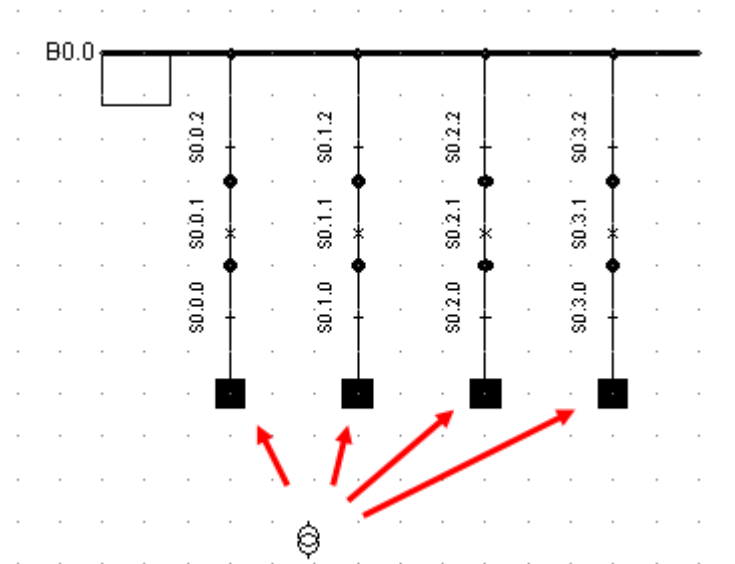
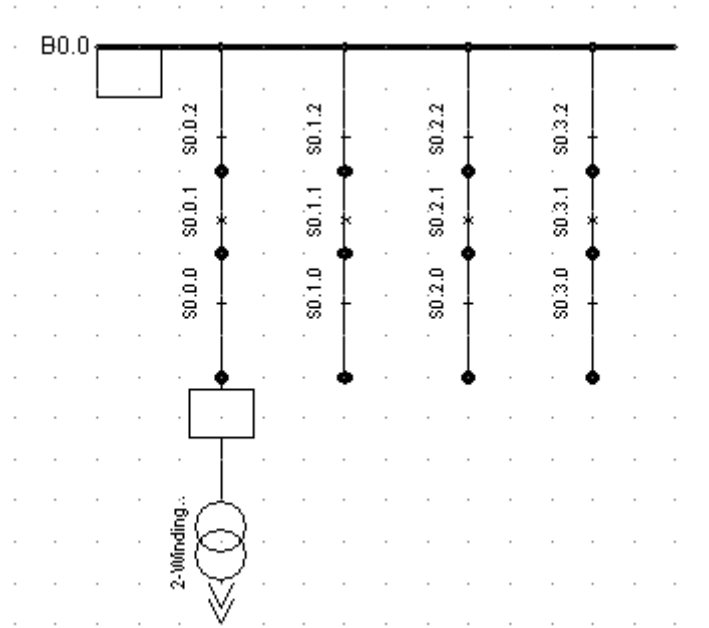

Fig. D.3: Connecting the transformer to the single busbar system (in detailed substation graphic)
Fig. D.4: Transformer connected to the single busbar system
- ▶ The detailed graphic of the second substation is opened automatically. Connect the transformer to one bay by clicking on one of the marked breaker terminals as illustrated in figure D.3. The result should look like figure D.4.